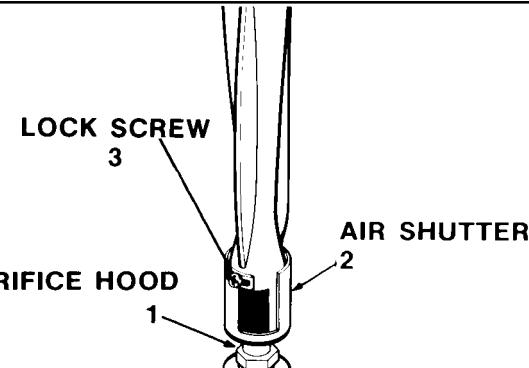

FIGURE 9
1. Yellow flame on burner - open burner air shutter to the widest opening that will not cause the flame to lift or blow off the burner when cold. (See #2 on figure 9).
2. Distinct blue flame but lifting - close burner air shutter to the point where it will not cause the flame to lift or blow off the burner when cold. (See #2 on figure 9).